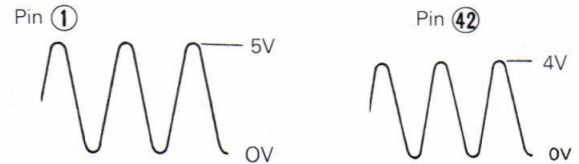

Figure 1
- (1) Clock generation
Figure 1 shows the waveforms at pins ① and ④② of QU01.